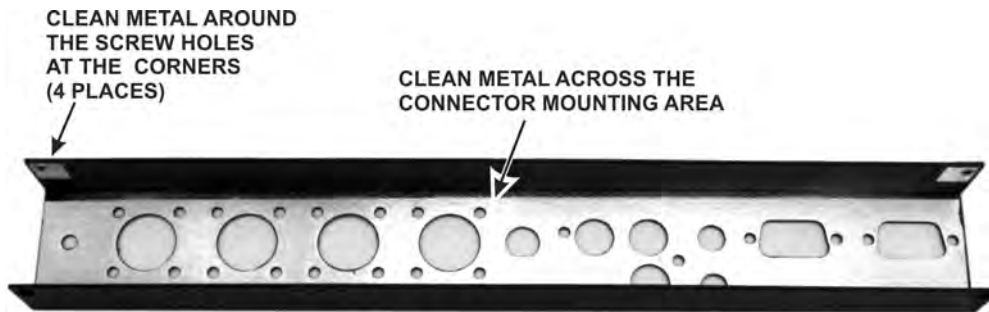

Figure 15. Preparing the Rear Panel.
- Inspect the inside surface of the rear panel and remove any tape or residue to provide a clean metal surface where shown in Figure 15.